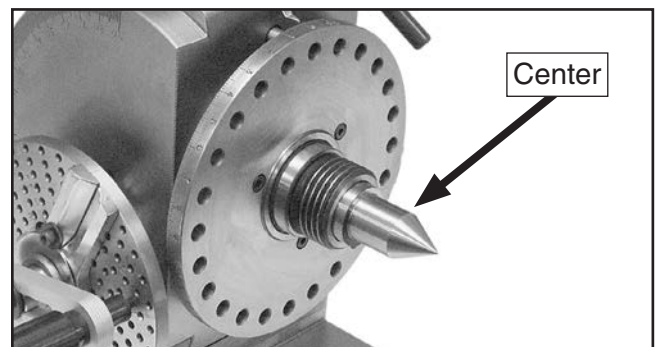

Figure 16. Dead center installed.
2. Insert the center into the spindle bore to within $\frac{1}{2}$ " of being fully seated, then thrust the center rapidly into the bore the rest of the way to ensure the tapers lock (see **Figure 16**).